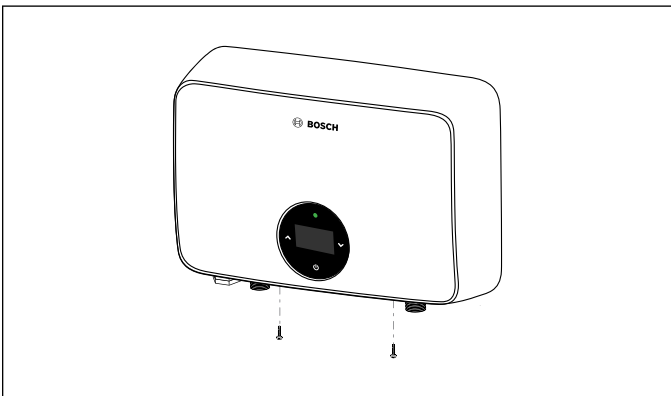

Figure 5
- DO NOT attempt to install this water heater in any other orientation than in a upright, vertical position and on a level surface (see Fig. 5). Doing so will result in improper water heater operation and property damage, and could result in serious personal injury or death.